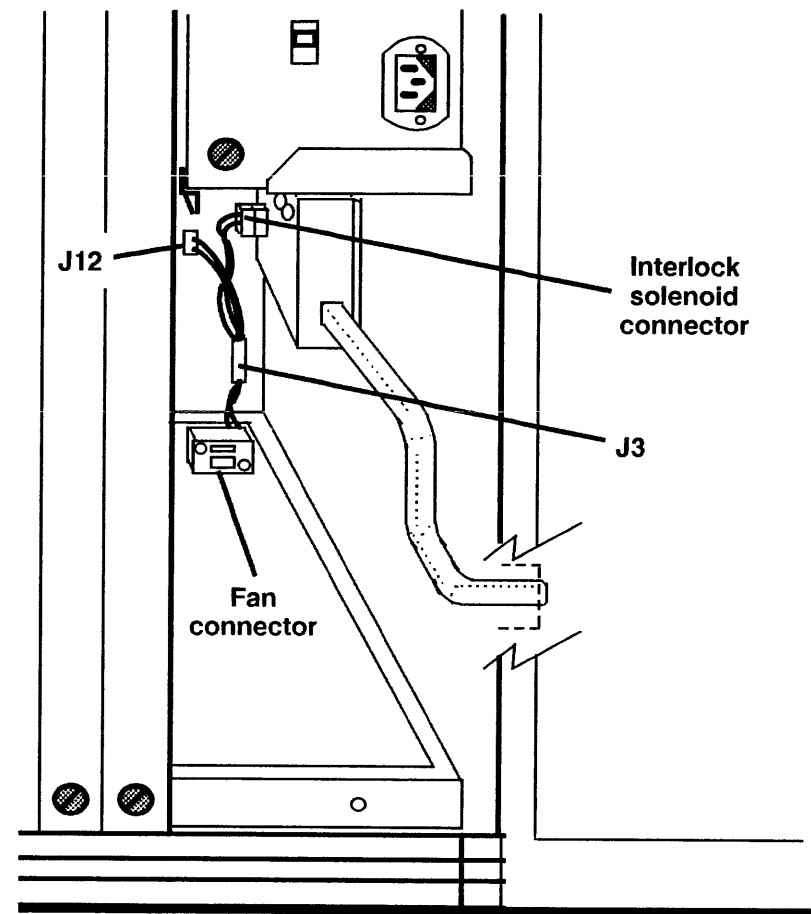

Figure 36. Widebody Fan/Interlock Solenoid Harness
10. Disconnect the J12 connector at the backplane, the interlock solenoid, and J3 (Figure 36).